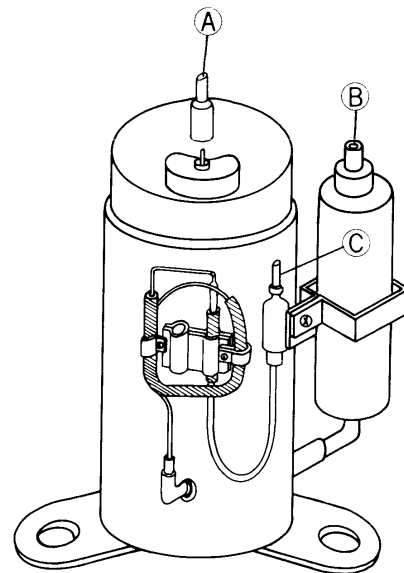

Fig. 22
- 2 ) For the new service compressor, blind tubes have been applied at the three places (A), (B), and (C) to prevent entry of dirt and moisture. At the time of exchange, remove these tubes, and then connect the unit tubing. Fig. 22